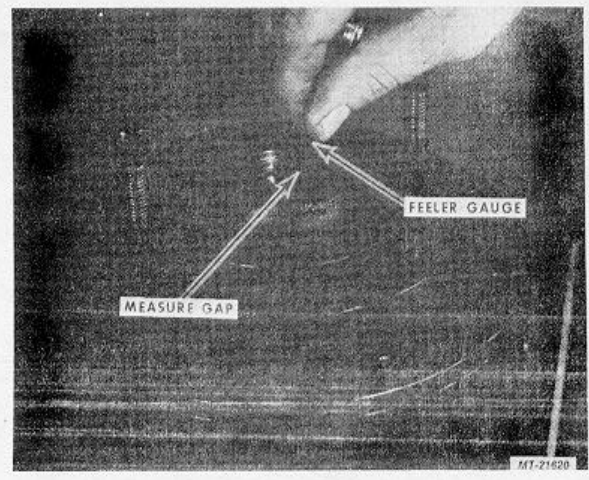

Fig. 90
53. With a Feeler Gage, measure the remaining gap between Shims and Internal Snapping, Fig. 90. Allen head bolts must be in position and finger tightened when measuring the gap.